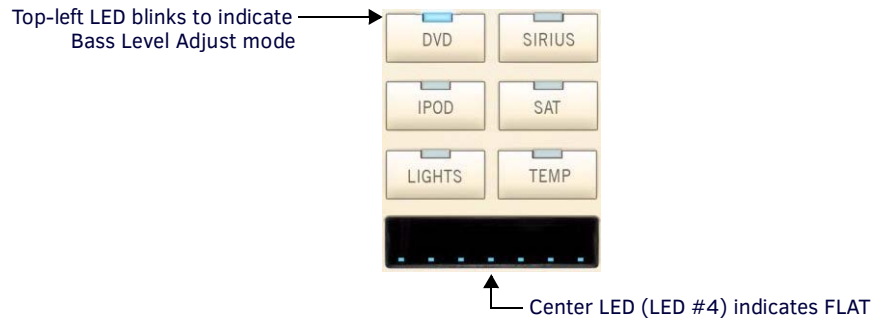

FIG. 46 Bass Level Adjust Mode
- The **top-left** LED will blink to indicate that Bass Level Adjustment mode is active (FIG. 46).